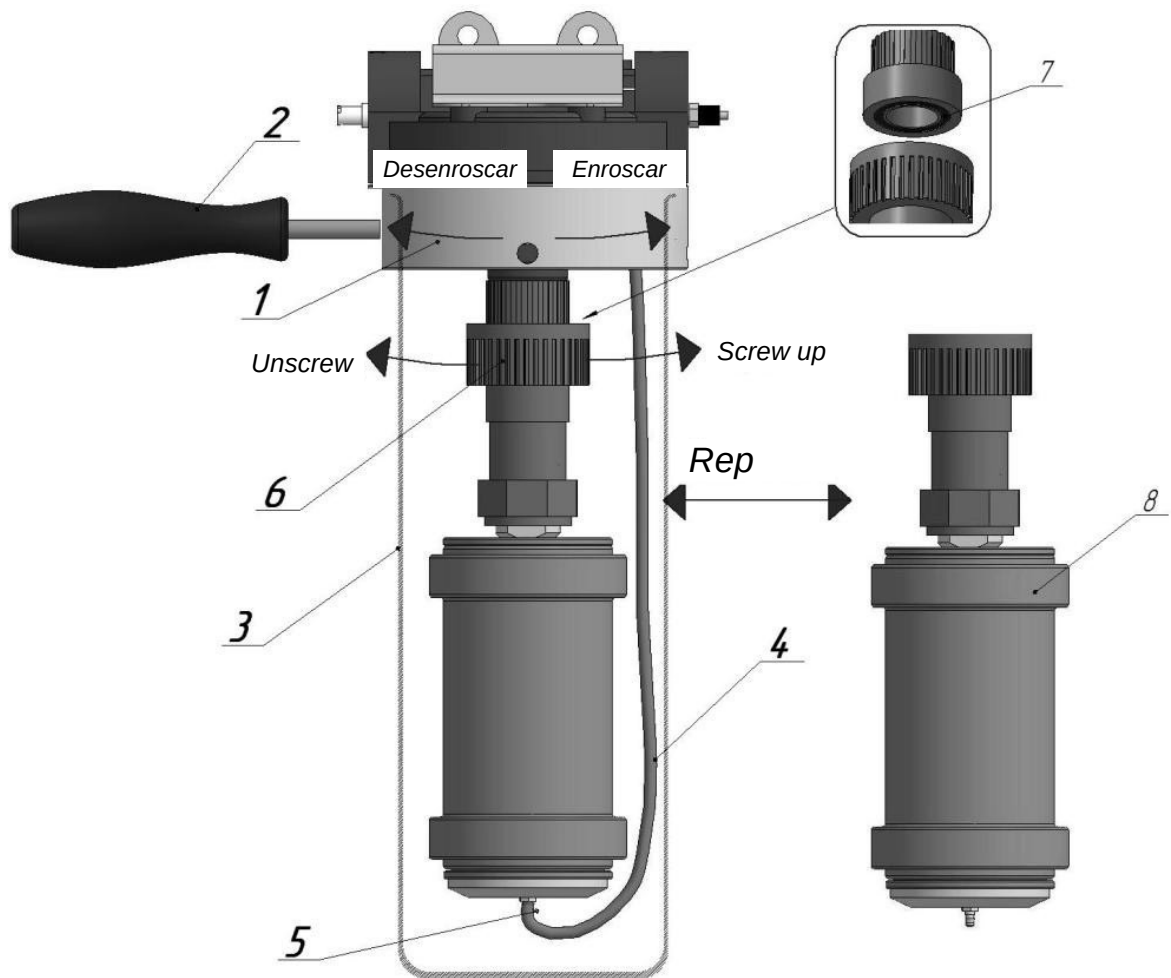

Figure 2.8 - Replacing the purification unit cartridge. Designation when ordering:
3.3.3 Replacing the cartridge of the purification unit is carried out in the following sequence (Fig. 2.8):